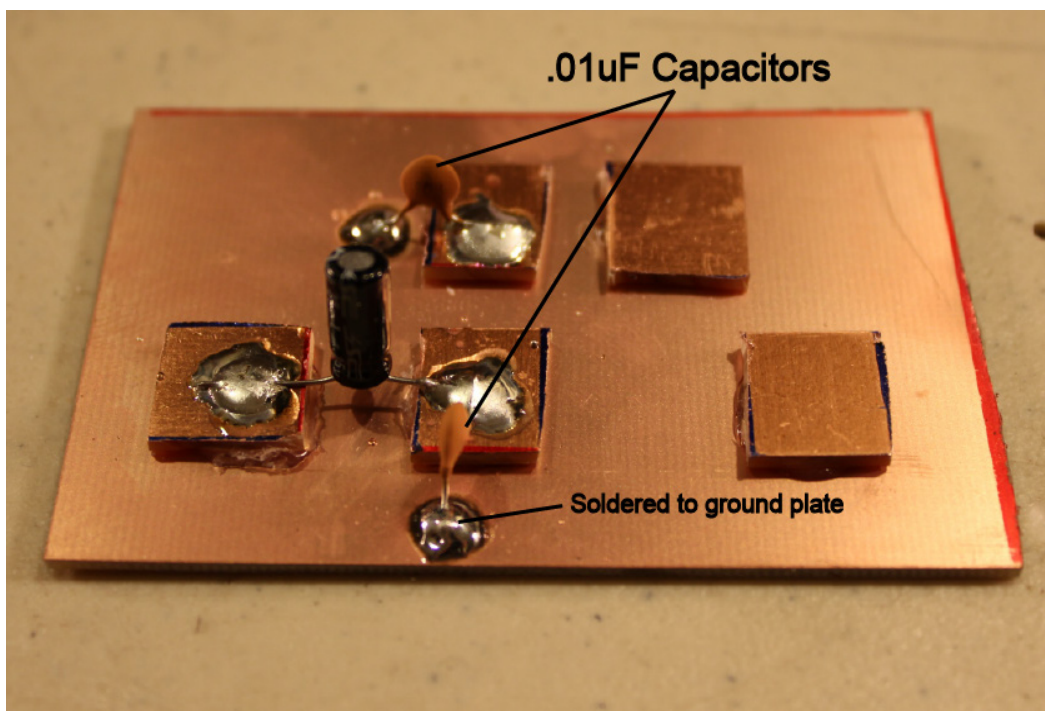

Figure 7
-Melt a blob of solder on these two squares and two blobs on the ground plate beside each. (See figure 7 for exact positioning).